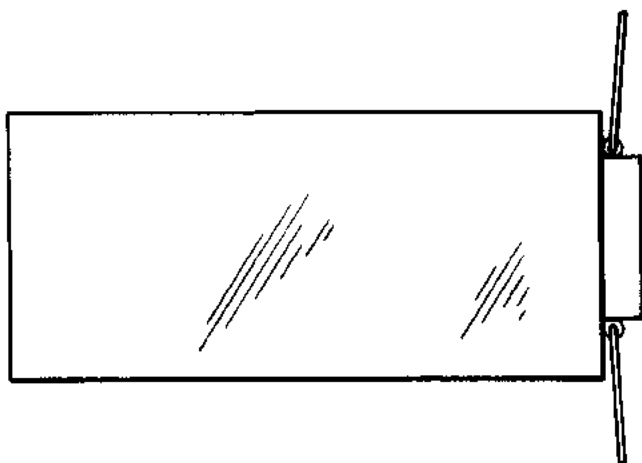

Figure 3-19. AltiMatic III C, Gyro Slaving Amplifier
**3-26. INSTALLATION OF GYRO SLAVING AMPLIFIER. (PA-23-250 Six Place) E & F Models. (Refer to Figure 3-19.)**